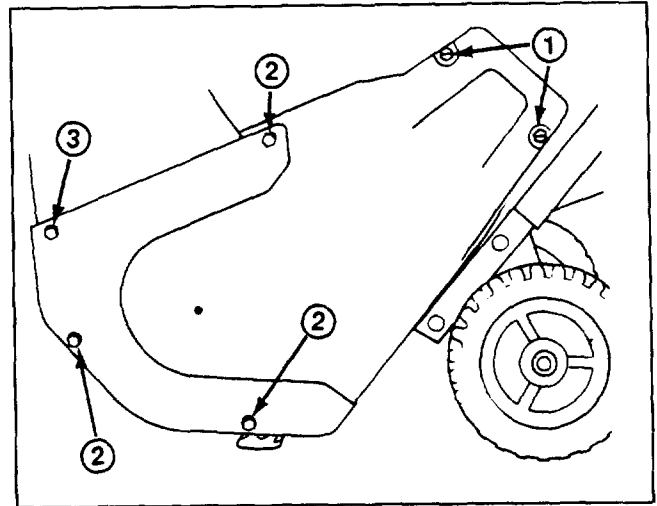

Figure 13
4. Remove (3) self tapping screws, (3) capscrews, (1) washer, and (3) nuts securing left side cover to snowthrower frame (Fig. 13). Lift off left side cover and allow it to hang from the cable.